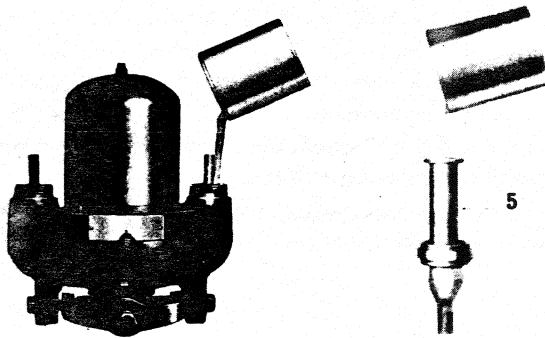

Fig. 12
10. Fill the molded insulation members in the cover with melted petrolatum, Fig. 12. The petrolatum should be poured up to the inside shoulder of the molded insulation members. Proceed immediately with Steps, 11, 12 and 13 below while petrolatum in cutout is cooling. Allow petrolatum to cool only sufficiently so that the cutout may be righted.